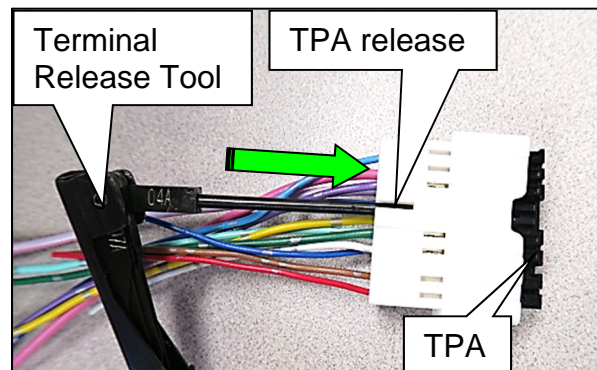

Figure 21
21. Insert the 04A tool into the TPA release, and then push the TPA toward the terminal side of the wire harness connector, as shown in Figure 21.
**HINT:** There are two (2) separate retainers that secure the TPA. The first retainer will release, and then the TPA will move forward slightly and stop.